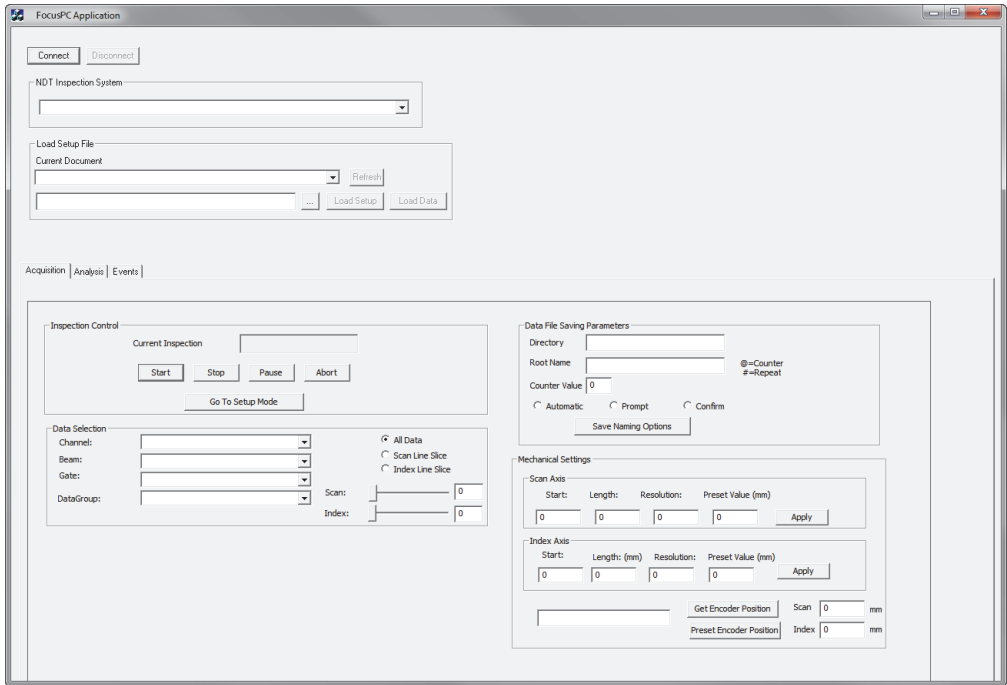

Figure 4-1 The FocusPC Application main window
3. In the **FocusPC Application** window, click **Connect** (see Figure 4-1 on page 69).